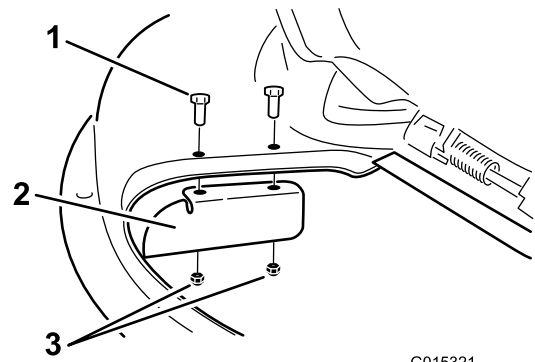

Figure 33
3. Remove the cutoff baffle from the mower deck (Figure 33).
9. Install the cutoff baffle to the mower deck (Figure 33). Use the two lock nuts (5/16 inch) to secure the baffle to the mower deck.